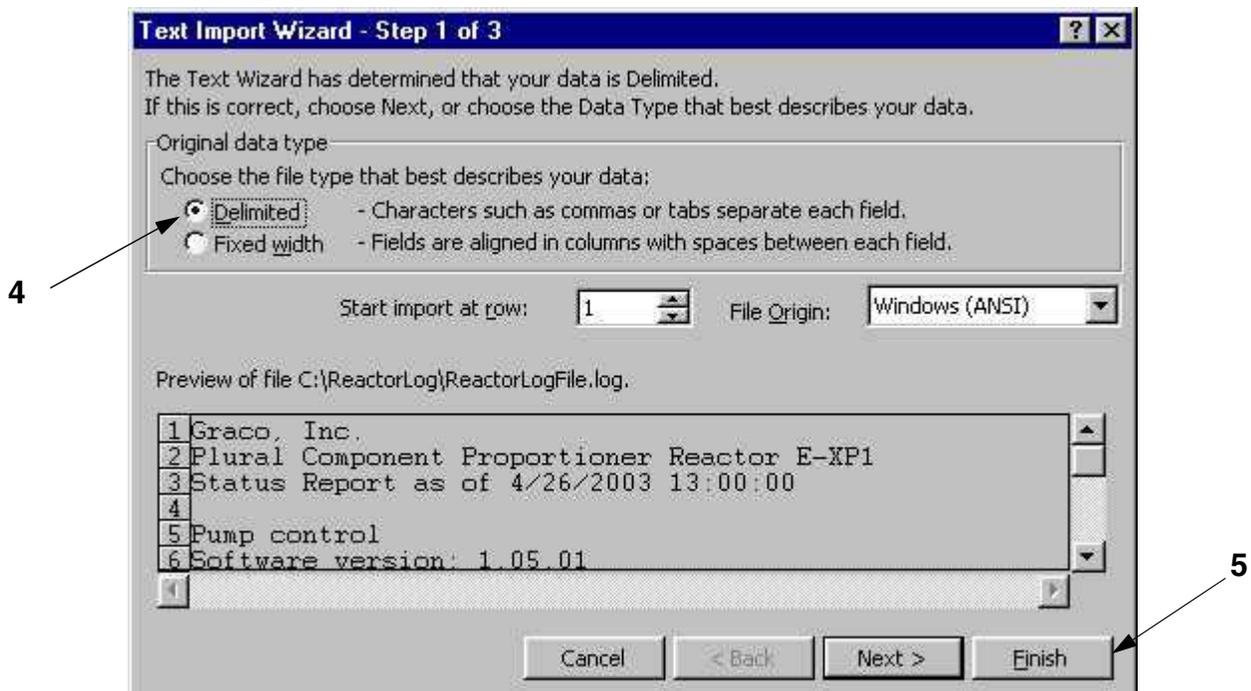

FIG. 4. Check that File is Delimited
4. Check that file is delimited. See FIG. 4.
5. Click Finish. See FIG. 4.